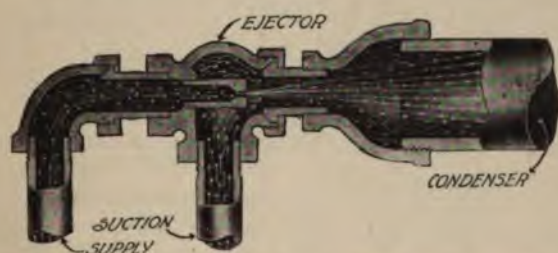

Fig. 120.—Ejector and Condenser—Moline System.
A. An ejector and condenser. A radiator (usually one of the first floor radiators) is used as a condensing radiator on larger installations; on smaller installations a coil of pipe is used on the ceiling of the basement. A connection from the steam main is made to this coil or radiator. Fig. 120. The appliance called an ejector is placed on this connection and the return from the loop or condensing radiator is connected to the air trap. The steam passing